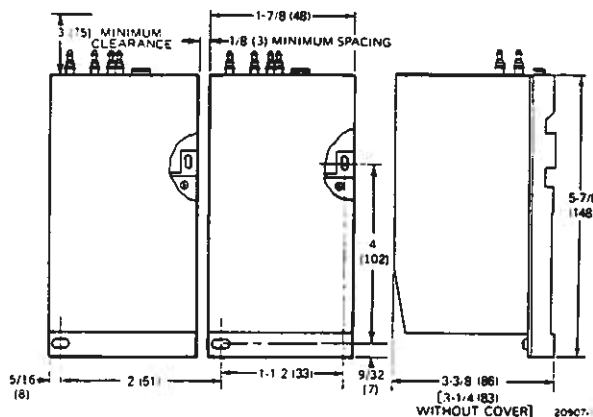

Fig. 1. RP920A Dimensions in Inches (Millimeters).
**DIMENSIONS:** See Figures 1 and 2.